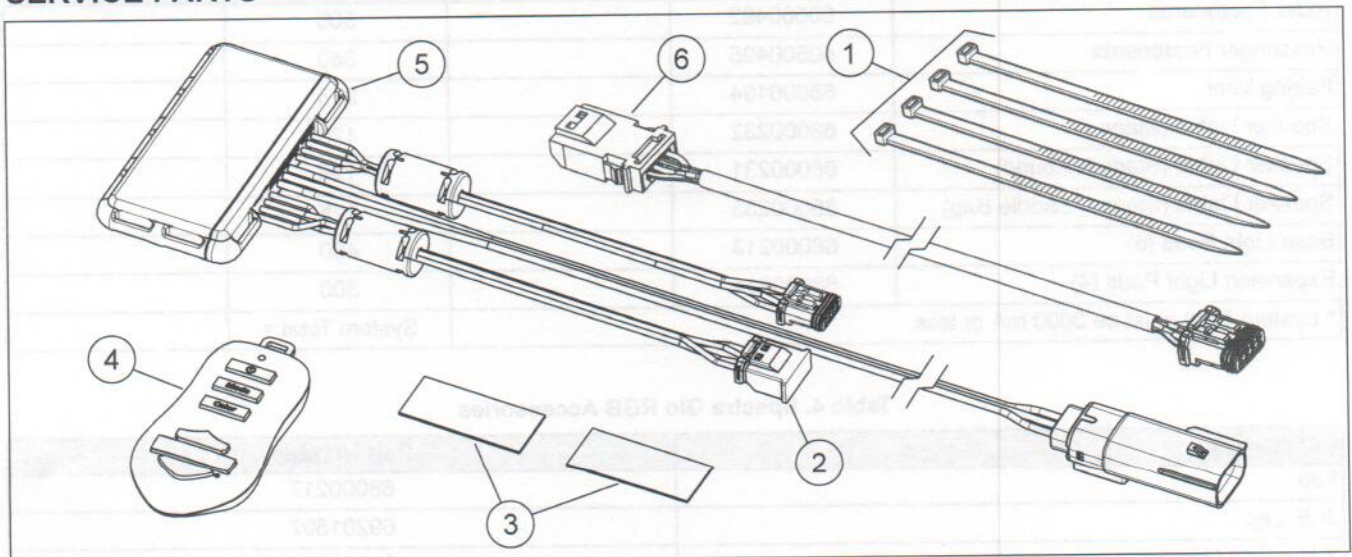

Figure 2. Service Parts, Spectra Glo Controller Kit
Refer to Figure 2. and Table 1.
5. Refer to Figure 2. Choose a suitable location for mounting the controller (5) under the seat or behind the left side cover. Use two-sided tape (3) provided in kit, or cable straps (1).